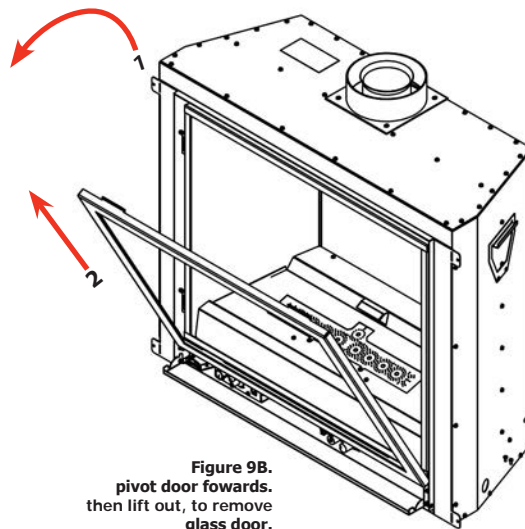

Figure 9B. pivot door forwards. then lift out, to remove glass door.
Step 3. Once released, pivot the door forward and pull it out of the bottom door retainers. The door must be angled in order for it to pull out. Fig.9B